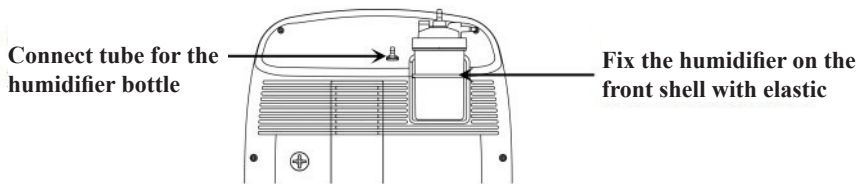

Figure 6
- b. Use the elastic humidifier strap to affix the humidifier bottle on the back shell of the oxygen concentrator, connect one end of the humidifier bottle connecting pipe to the humidifier bottle inlet, and the other end to the oxygen output port of the oxygen concentrator (refer to Figure 6\*).